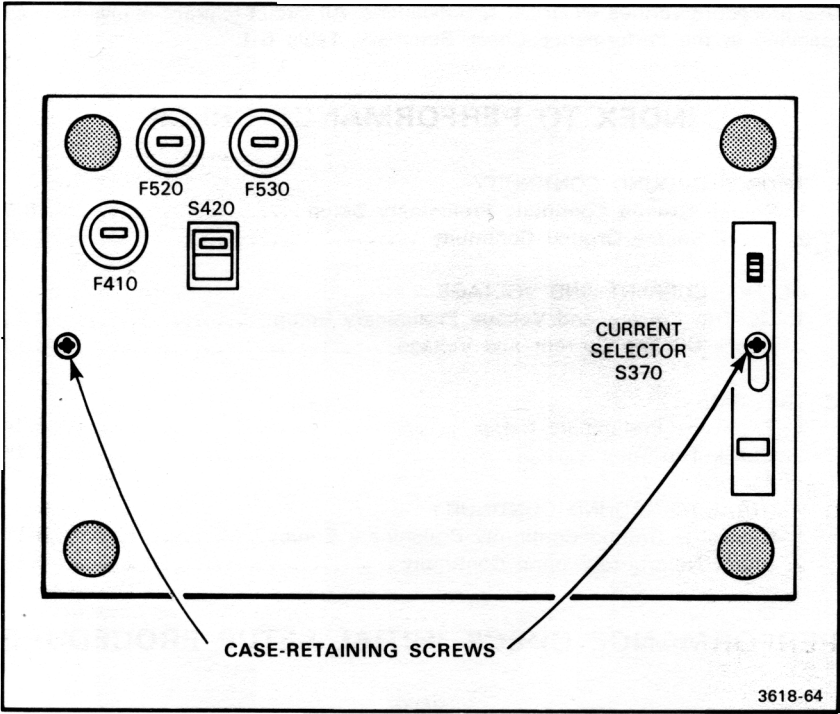

Figure 6-1. Bottom view of A6901
- Remove the two case-retaining screws shown in Figure 6-1